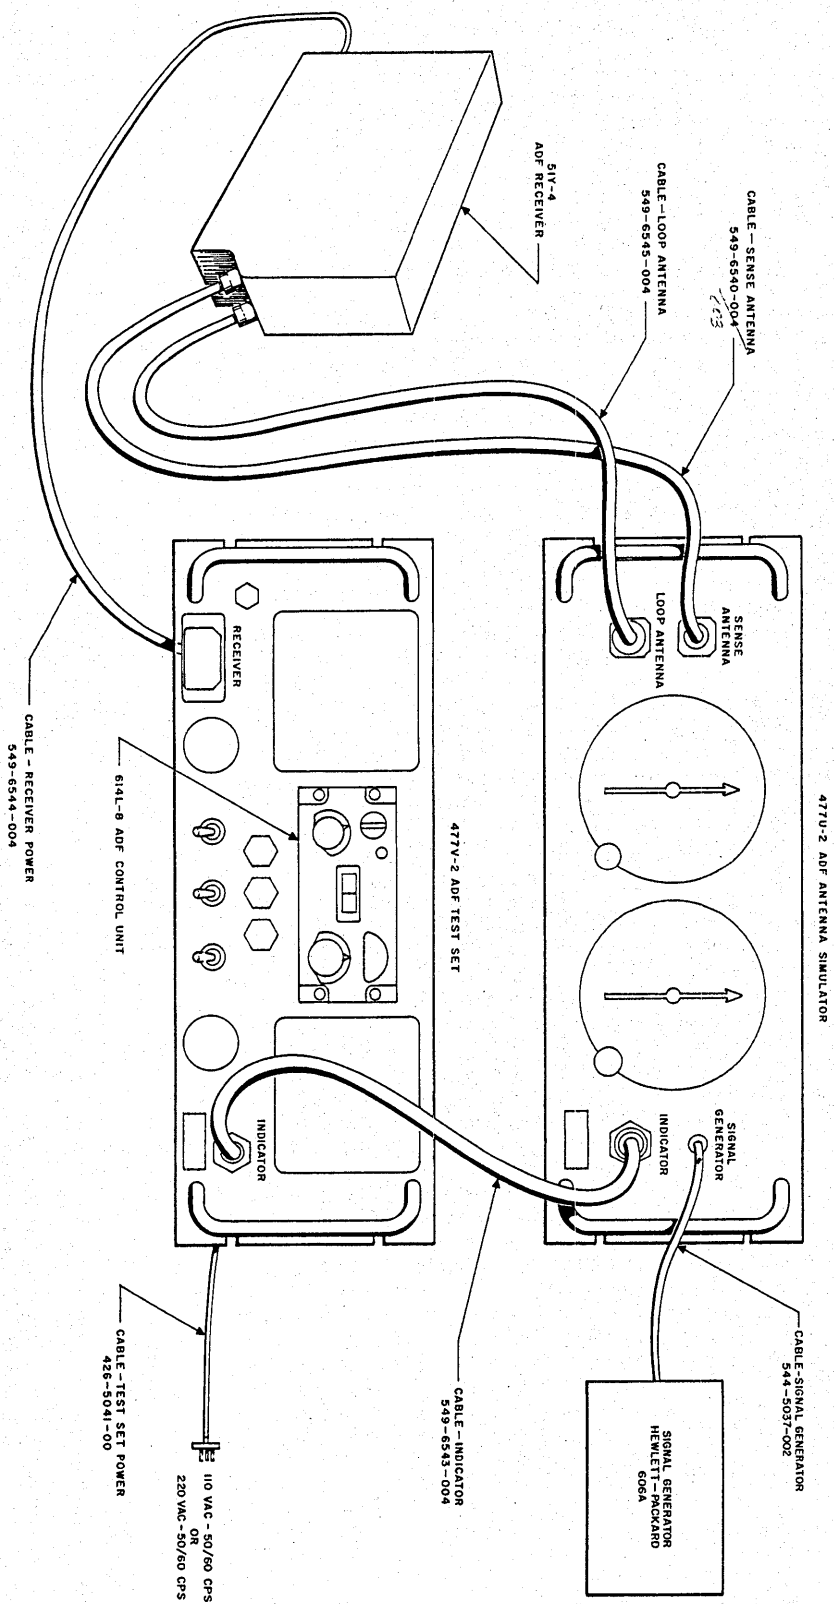
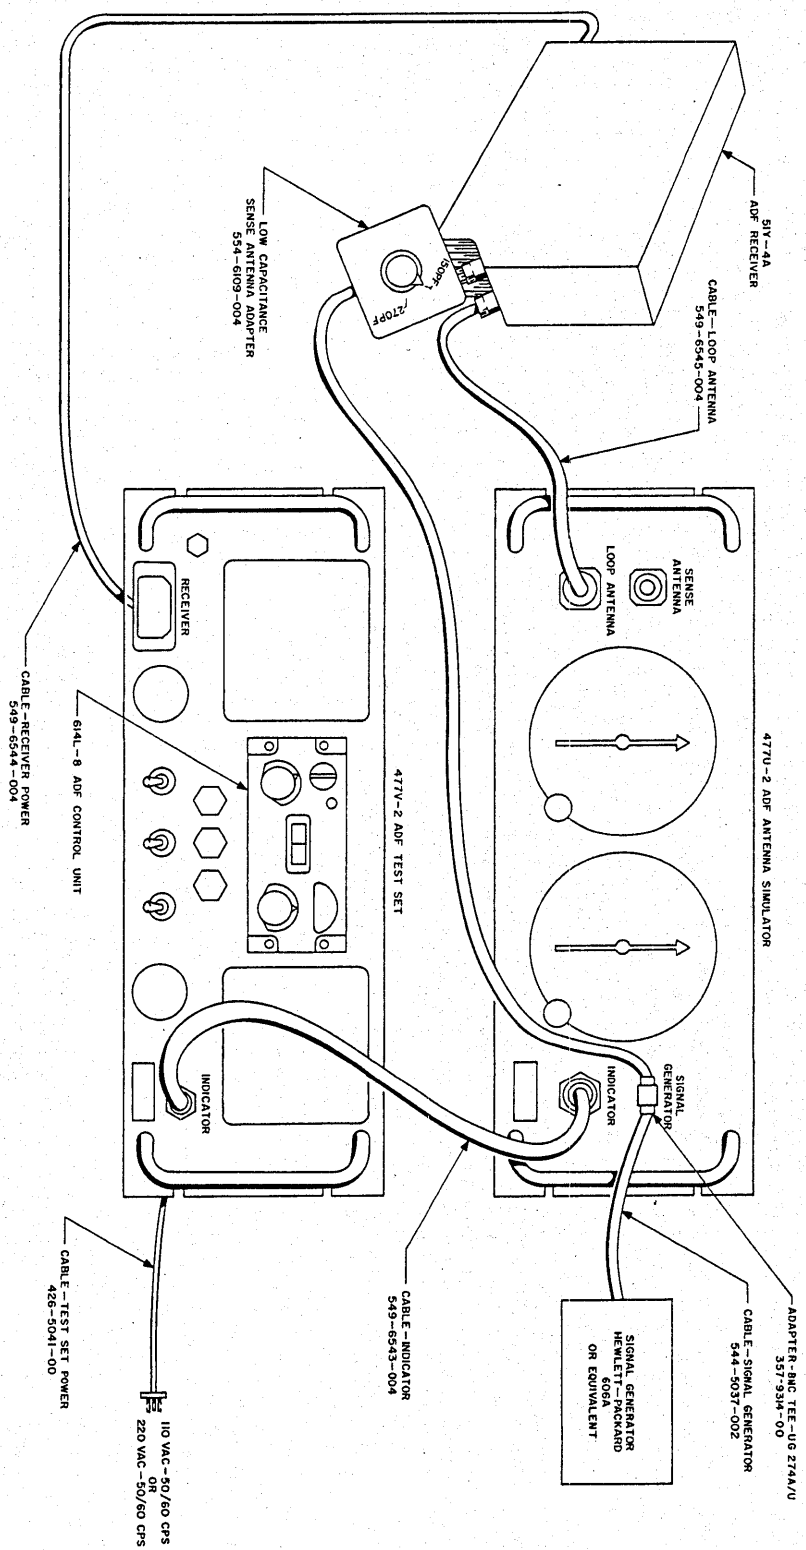

Figure 5-1. 477U-2 Performance Test Setup Using DF-203 Components (51Y-4 ADF Receiver)
Figure 5-2. 477U-2 Performance Test Setup Using DF-203 Components (51V-4A ADF Receiver)
Test jig	To be fabricated according to figure 5-1
- Refer to figure 5-1 and interconnect the 477U-2, the signal generator, a 477V-2 ADF Test Set, and a 51Y-4 ADF Receiver that is known to be in good operating condition. Figure 5-2 shows the interconnect configuration for the 477U-2, a signal generator, a 477V-2 ADF Test Set, and a 51Y-4A ADF Receiver.